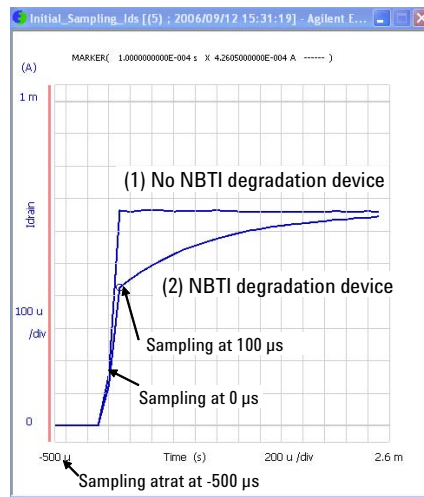
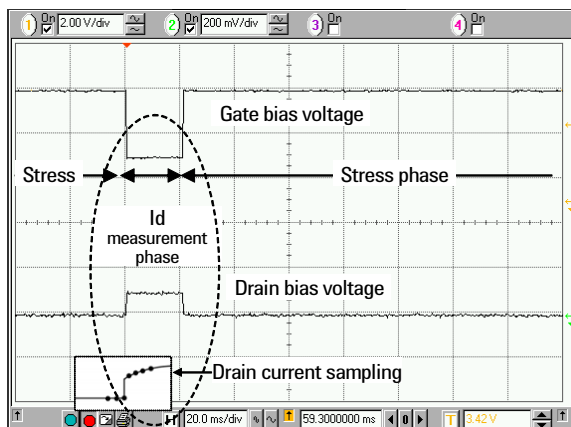

Fig. 5 Timing-on-the-fly I_d sampling data
Fig. 6 Waveform of B1500A EasyEXPERT software's timing-on-the-fly NBTI test
Figure 5 shows a sample plot of the on-the-fly I_d sampling measurements from $-500 \mu\text{s}$ to 2.5 ms with $100 \mu\text{s}$ interval for (1) a normal FET that does not show NBTI degradation and (2) a special device that shows the equivalent behavior of the dynamic NBTI recovery. The figure indicates that the timing-on-the-fly NBTI can detect even a small change of dynamic recovery in the NBTI characterization. The actual output waves of the timing-on-the-fly NBTI test are shown in Figure 6. Figure 6 shows that the output waves for the drain and gate have the exact same timing, and that there is no dip to ground level in the transition from the stress phase to the measurement phase. How the drain current is sampled is added in the figure for easier understanding of the test method.